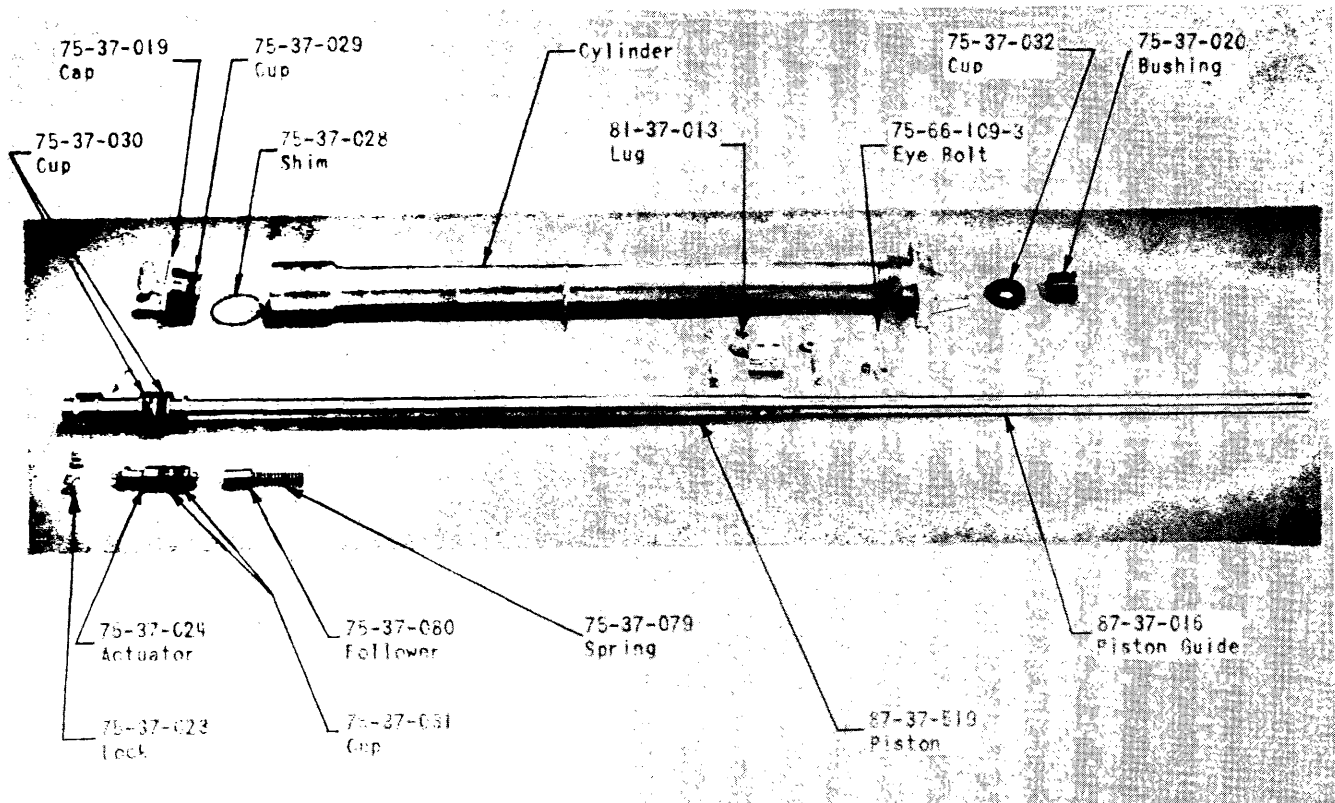

Figure 186 - Tail Wheel Retracting Strut Disassembled
(1) Place the cylinder in a wooden block clamp and insert the clamp in a vise.
(2) Remove the cotters, nuts, washers, and bolts attaching the lug to the piston. Slide the lug off the piston and piston guide.
(3) Remove the cylinder bushing with a spanner wrench.
(4) Move to the opposite end of the cylinder and remove the cap assembly and shims.
(5) Grasp the piston guide and push the piston out of the cylinder far enough to free the two locks from the square broached holes. Remove the locks and pull the piston and guide completely out of the cylinder.
(6) Tip the piston with the guide end up until the actuator, follower, and spring drops out of the piston end.
(7) Remove the cup from the forward end of the cylinder and the cylinder and piston are disassembled as illustrated in figure 186.